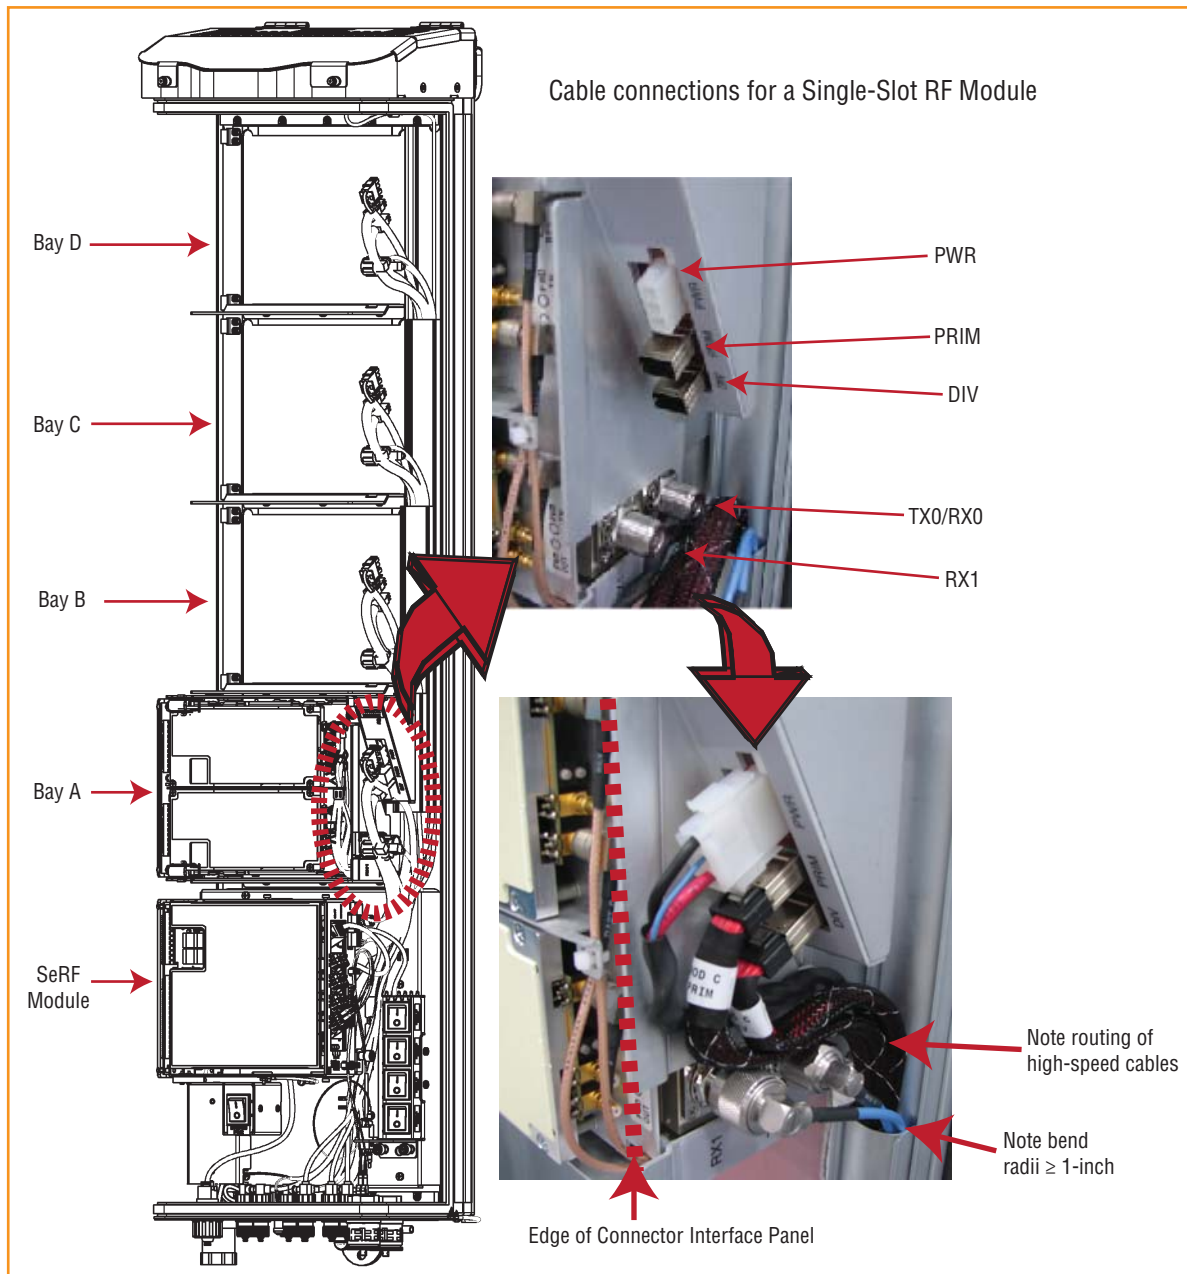

Figure 21. Cable Connections for Single-Bay RF Modules
- Single-Bay RF Module: Figure 21